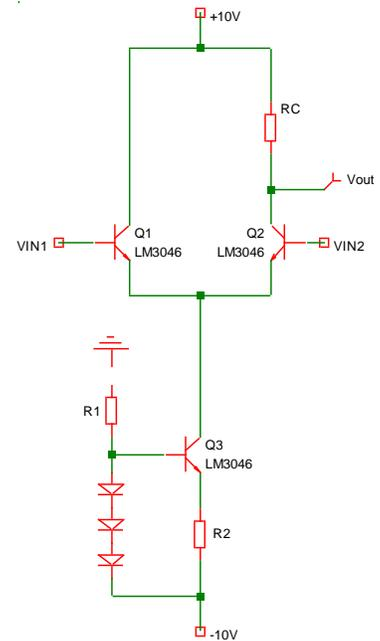

Fig. 5: Current source biasing.
- Use three diodes to bias transistor Q3 (see Fig. 5) with 2.1V.